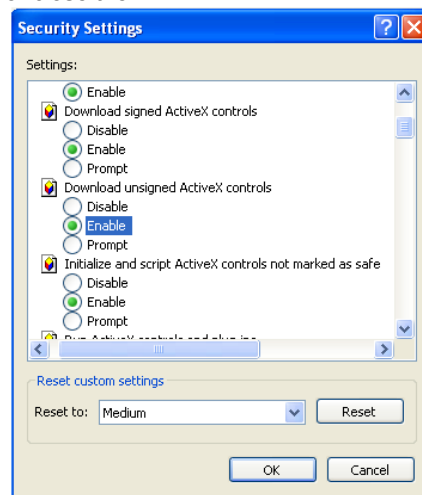

Fig 8.2
③ Enable all the sub options under "ActiveX controls and plug-ins". Refer to Fig 8.2.
④ Click ok to finish setup.